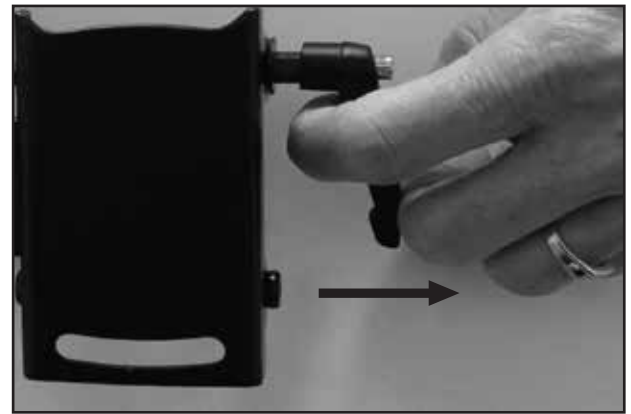

Fig. 5a
2. This handle is a tension lever. To loosen the tilt adjustment, turn the handle counterclockwise until the handle hits the **Wall Plate (1)** and can turn no more. Then pull the handle away from the mount arm to release the spring as shown in Fig. 5a, and while holding the handle away from the mount arm, turn the handle clockwise (Fig. 5b) and release the handle to engage the spring. Now you can turn the handle further counterclockwise to loosen the tilt adjustment more.